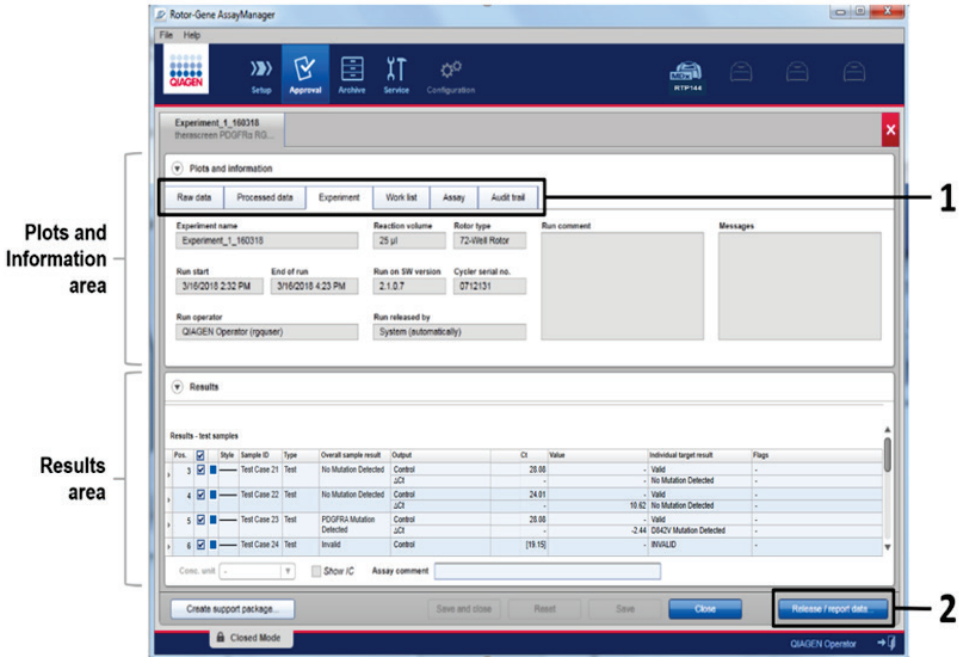

Figure 13. Example of assay results main windows. 1 - Experiment tab in the Plots and information. 2 - Release / report data button.
30. Raw Data, Processed data, Experiment information, Assay and Audit trail information can be found in the Plots and information section (1). Assay results can be found in the Results section (Figure 13).